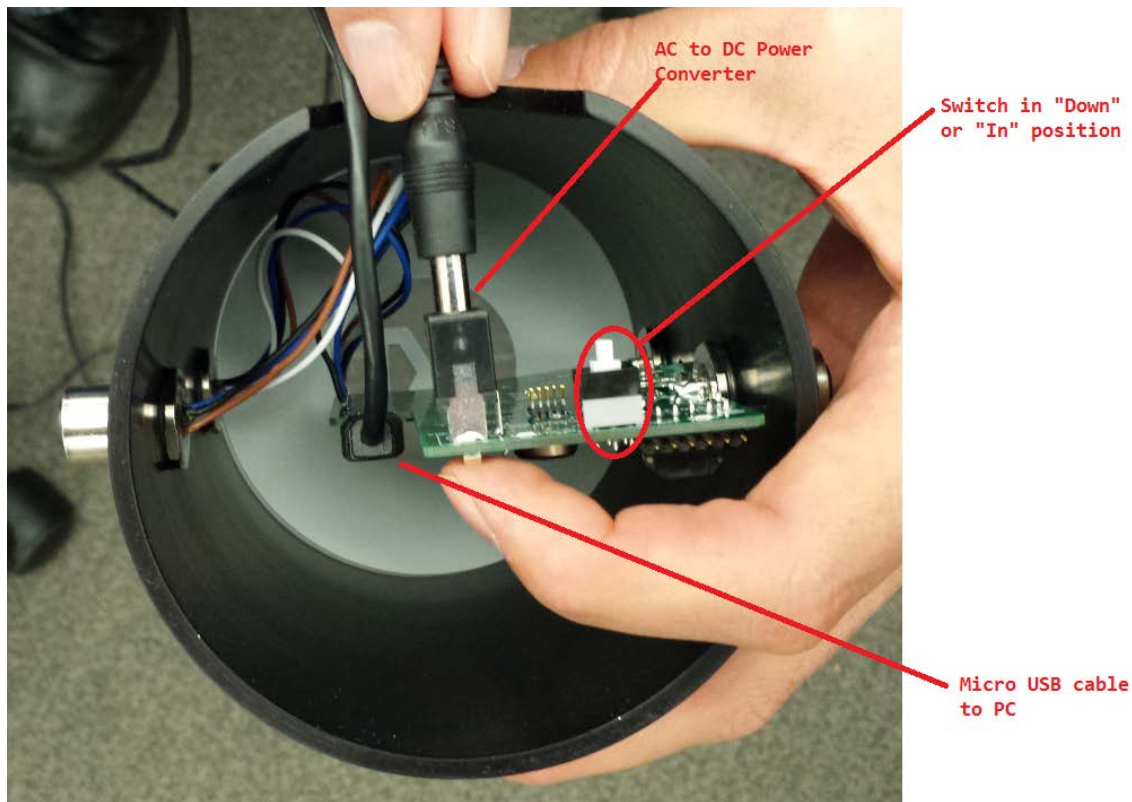

Figure 5. Verify the SW1 position and connect the AC-to-DC 24V DC power converter.
5. Ensure that switch SW1 is in the “Down” or “In” position as shown in Figure 5.
6. Connect the AC-to-DC 24V DC power converter as shown in Figure 5.